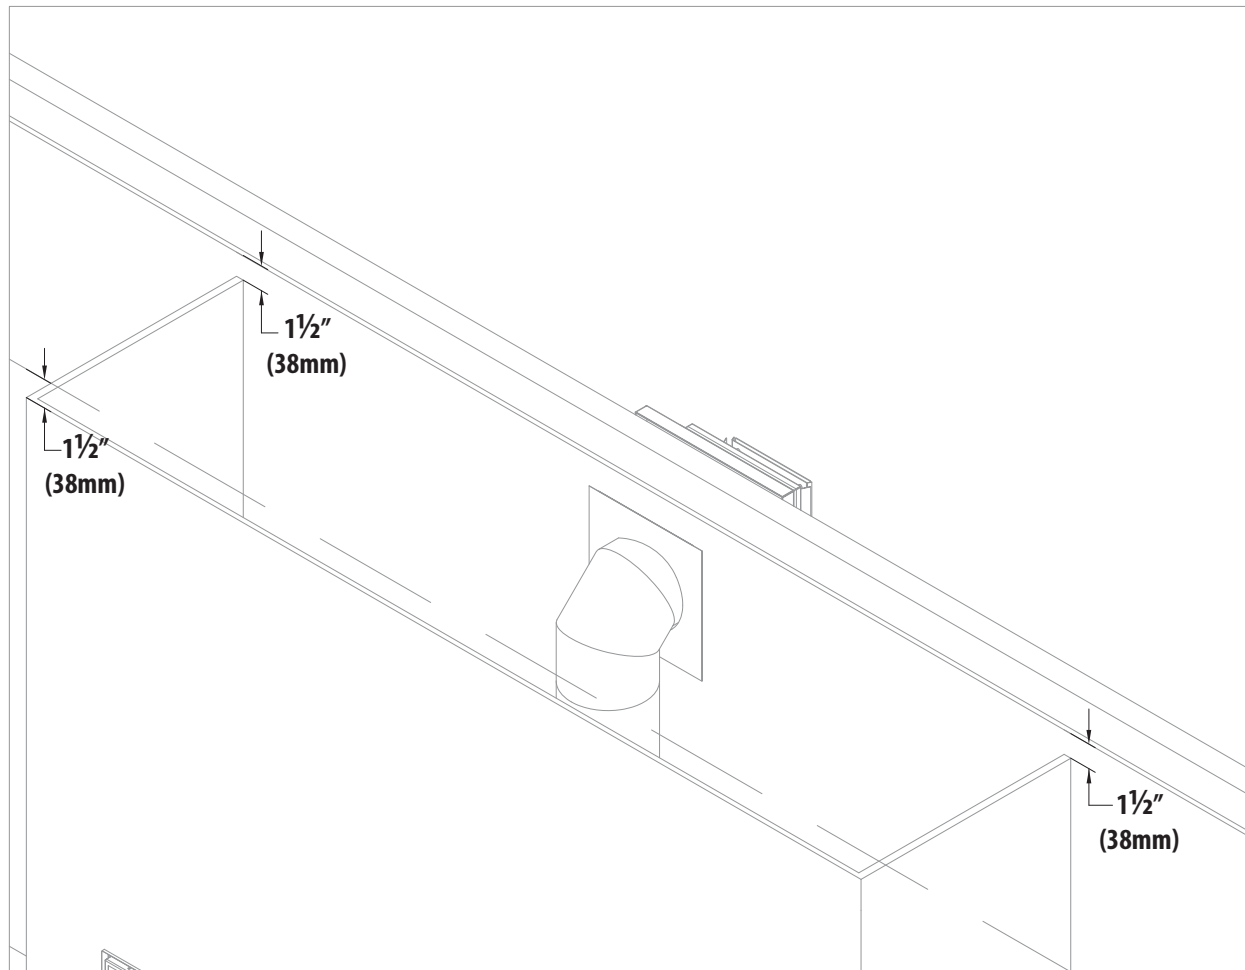

Figure 3.21, Top Vented Cavity Installation
- Figure 3.21 shows the minimum 1-1/2" (38mm) clearance from the fireplace enclosure top to the ceiling on all three sides of the enclosure.